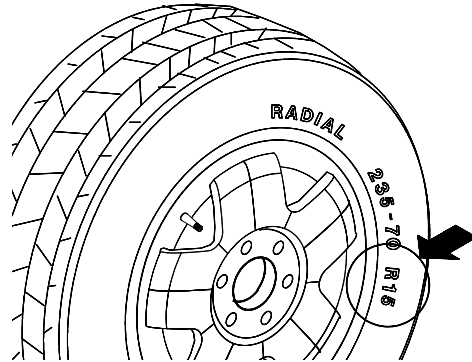

Figure 24
**4.5.3 Rim Diameter Entry** - Select the Manual Diameter button (#11 page 9). Read the rim diameter marked on the sidewall of the tire (Figure 24). Enter the measured rim diameter by pressing the **Diameter** button followed by the **UP** or **Down** arrow button until the desired value appears in the right display.